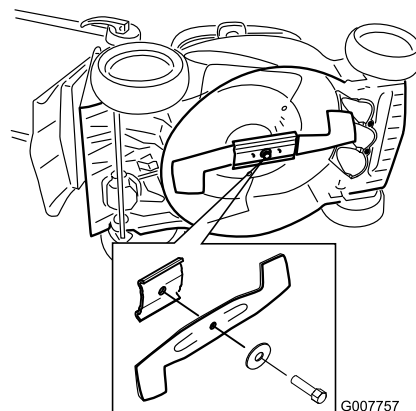

Figure 28
2. Tip the mower onto its side with the air filter up (Figure 28).